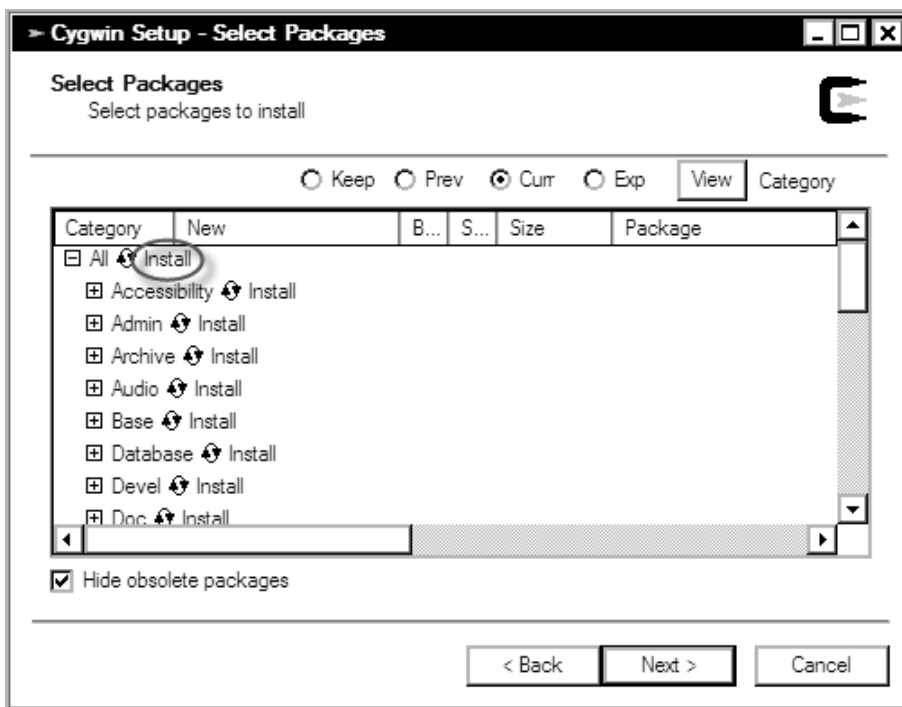

Figure 2-10. *Cygwin installation: picking what packages to install*
- On the next page, click the Default label next to All to install all the packages (see Figure 2-10).